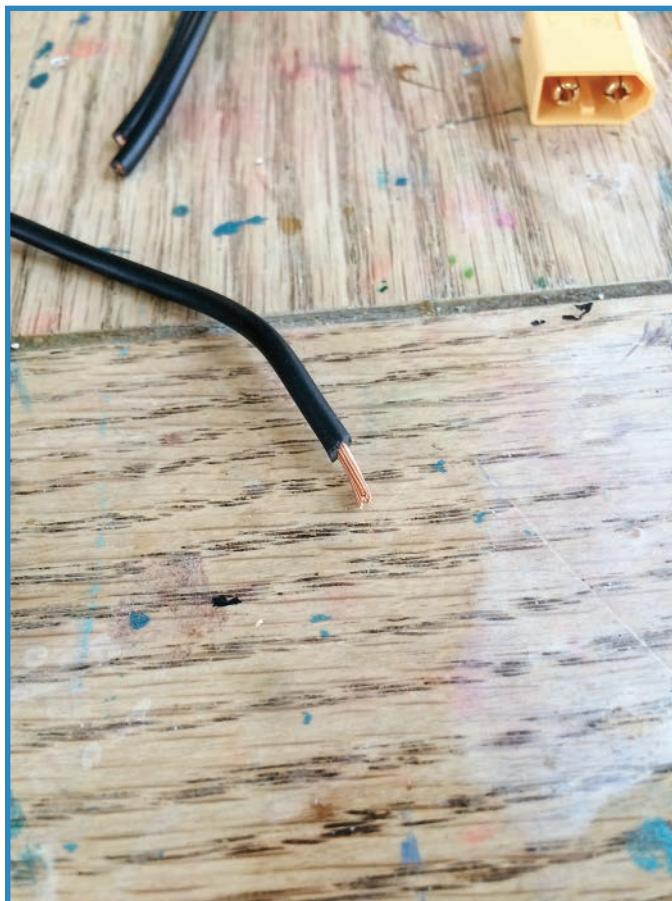

FIGURE 10.13 You'll need a black and red wire for each component.
1. **Cut 16-gauge wires approximately five inches in length.** You'll want one red and one black wire for each component to be powered—certainly one per motor! For each wire, strip off a half-inch of insulation from one end and a quarter-inch from the other end. Figure 10.13 shows how it should look.